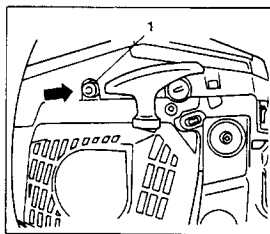

Fig. 2-2B
1. Set ignition switch (1) to ON position.
- *Push decompression valve (1) (if so equipped). This valve will return when engine started. (Fig. 2-2B)